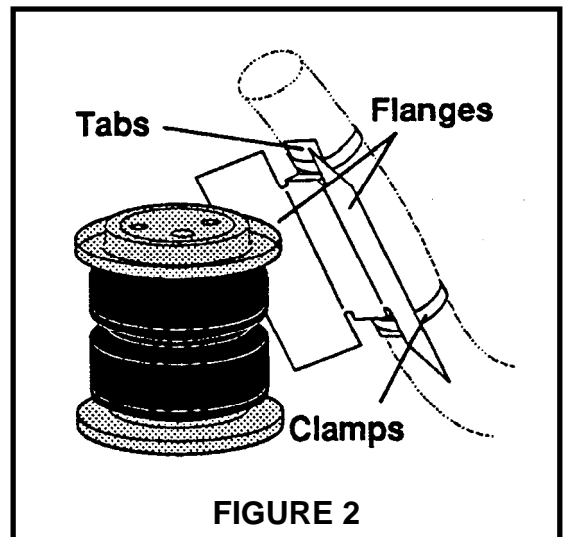

FIGURE 2
13. Installation of this kit may require an exhaust heat shield (Figure 2). The heat shield is attached to the exhaust pipe with the flanges bent toward the air bellows. The shield may be trimmed or bent to prevent contact with the bellows or hardware during suspension travel. There should be a minimum of a "thumbs width" of space between the exhaust pipe, the shield and the bellows..